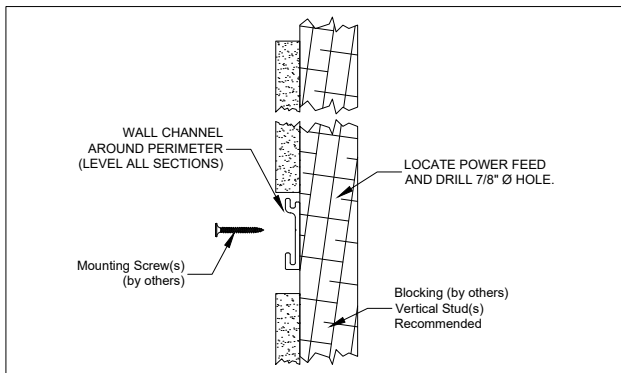

Figure 1. Wall channel installation.
1. Gather all necessary components and start by installing the wall channel around the perimeter with mounting screws (not provided by Picasso Lighting). The channel extrusion must be field cut as required. Locate the power feed and drill a 7/8" Ø hole for greenfield whip. See figure 1 for more details. We recommend installing mounting screws on vertical studs for better support.